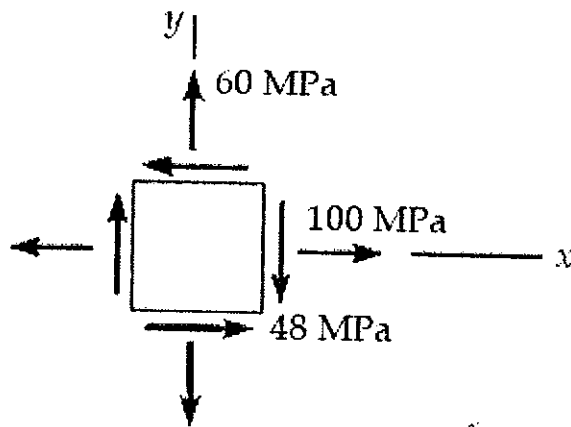

Fig. Q3
- Q3. Fig. Q3 shows a plane stress state at a point in a structural element.